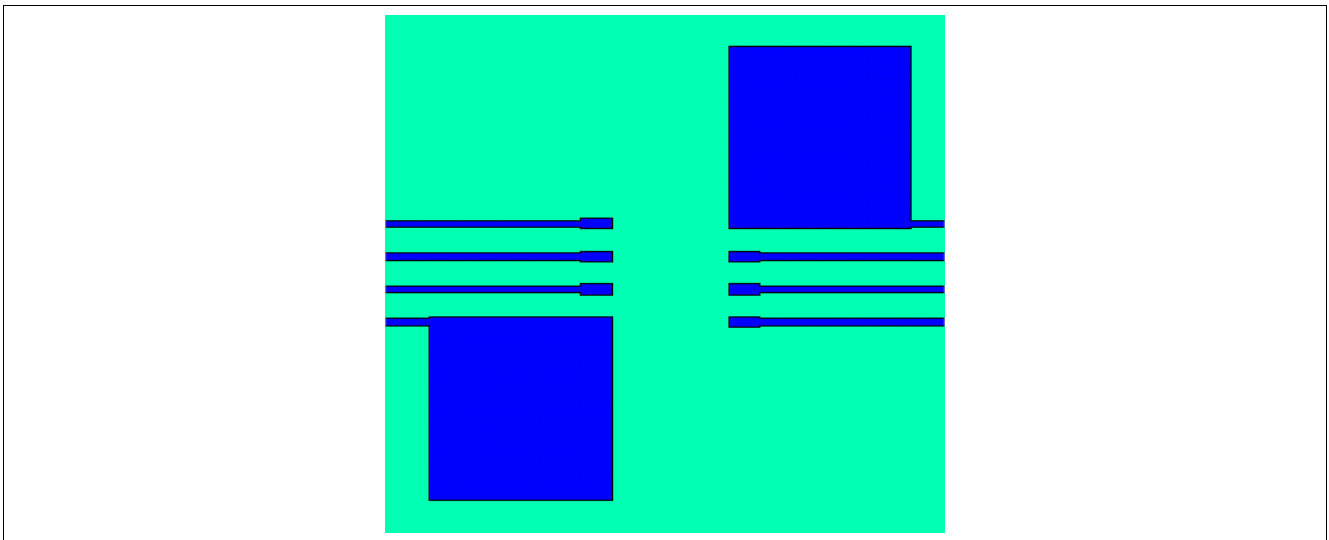

Figure 10 Reference Layout for Thermal Data (Copper thickness 35 μm)
2) See Figure 10 for reference layouts for these thermal data. Thermal performance may change significantly with layout and heat dissipation of components in close proximity.
The PCB layout shown in **Figure 10** represents the reference layout used for the thermal characterisation. Pin 4 (GND1) and pin 8 (GND2) require each a ground plane of 100 mm² for achieving maximum power dissipation. The 1EDI20N12AF is conceived to dissipate most of the heat generated through these pins.